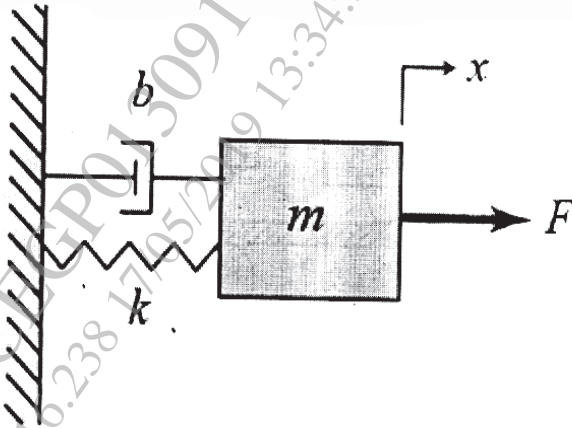

Figure 3
- Q8) a)** For the system in Figure 3, assume m =mass=2 kg, k =stiffness=4 N/m and b =damping = 0.3 Ns/m. Also, F =Force input in N and x = displacement output in m. [10]